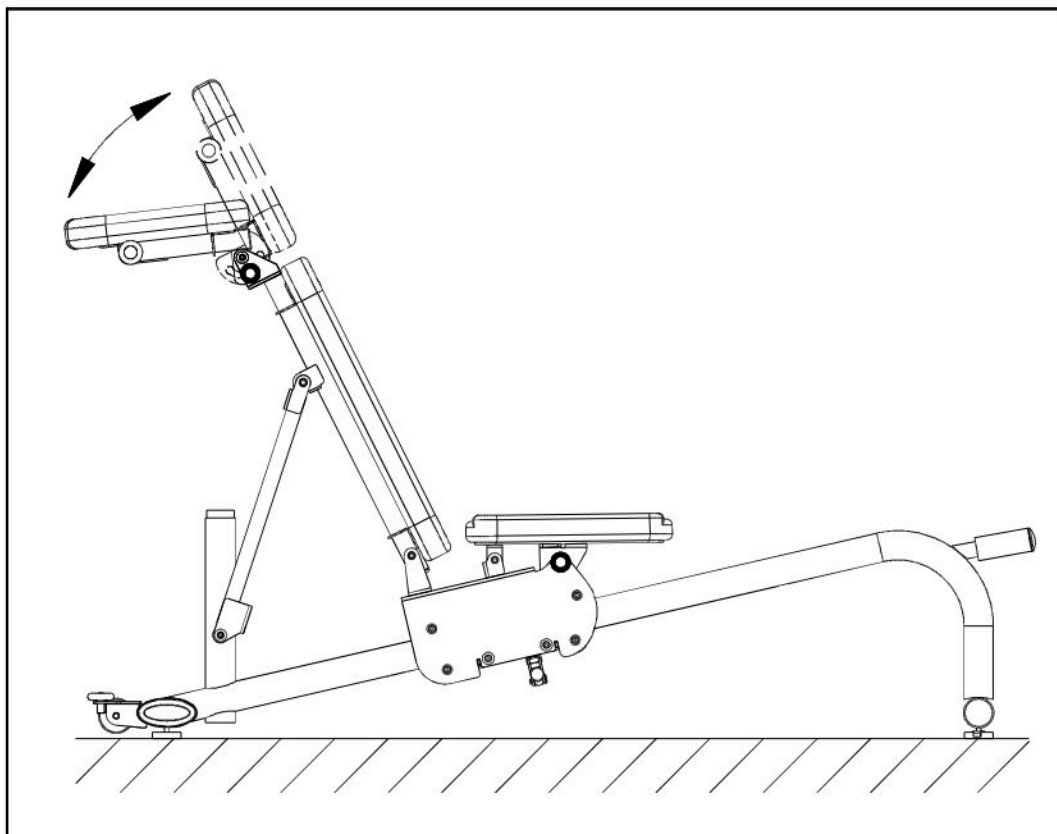

Fig.6
6. Adjust the angle of the headrest. See Fig.6.